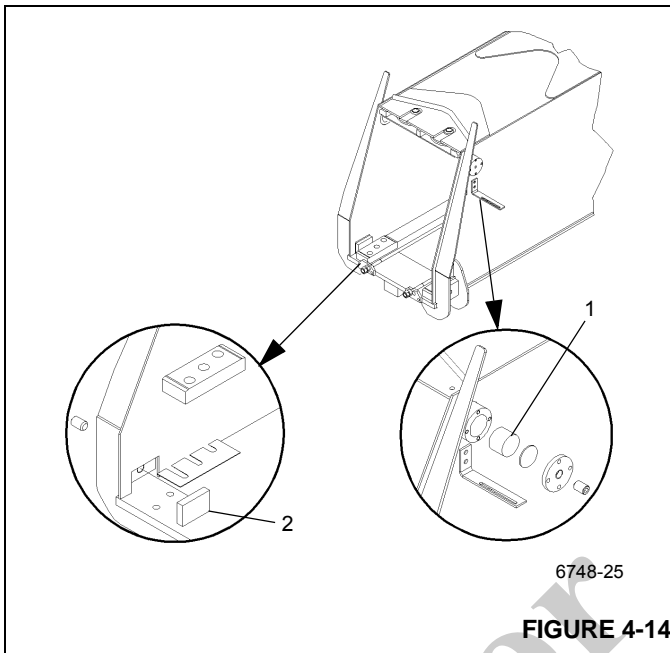

FIGURE 4-14
5. Remove the two screws securing each top (Figure 4-14, 1) and bottom (Figure 4-14, 2) side wear pads at the front of the base section. Remove wear pads, shims, and mounting angle (top left side only).